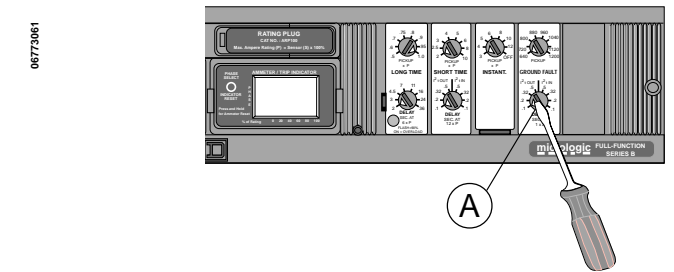

Figure 49: Adjusting Trip Switches
2. Set appropriate rotary switches (A, Fig. 49) to desired level using small straight-blade screwdriver.